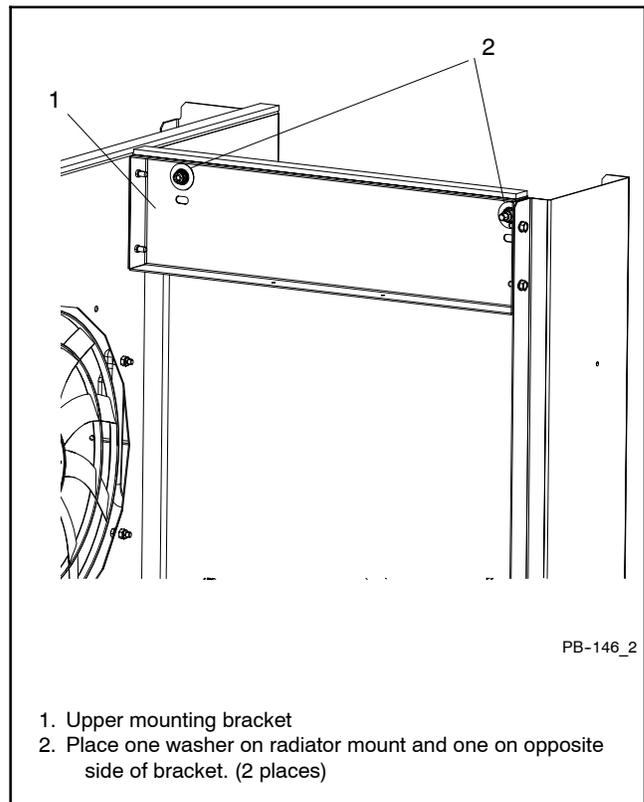

Figure 4 Radiator Mounting
- 6.5 Use existing mounting hardware to secure the radiator. Place one washer on the radiator mount and one washer on the opposite side of the bracket. Tighten the screws to 23 Nm (17 ft. lb.). See Figure 4.